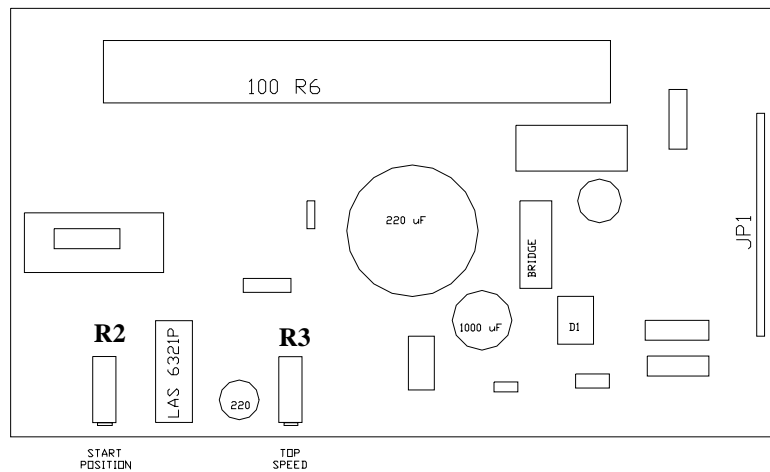

FIGURE 8
1. Turn the pot R3 in the control board, see figure 8, in the clockwise direction until you hear (or feel) the click in the pot which indicate that already had reached the end. Then turn back in the counter clockwise direction 9 turns, this pot is which set, the reference voltage to the PWM chip (LAS 6321P) in the board.
If the motor is running, turn the pot R2 in the control board, see figure 8, in counter clockwise direction until the motor stop spinning.